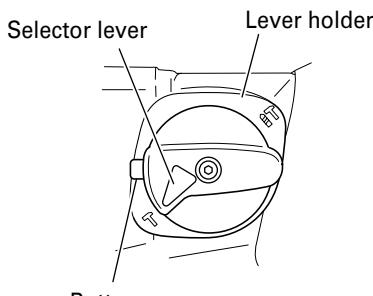

Fig. 7
**(1) Switching to "hammering"**
- (b) Align ▲ of the selector lever and T of the lever holder as illustrated in Fig. 7.